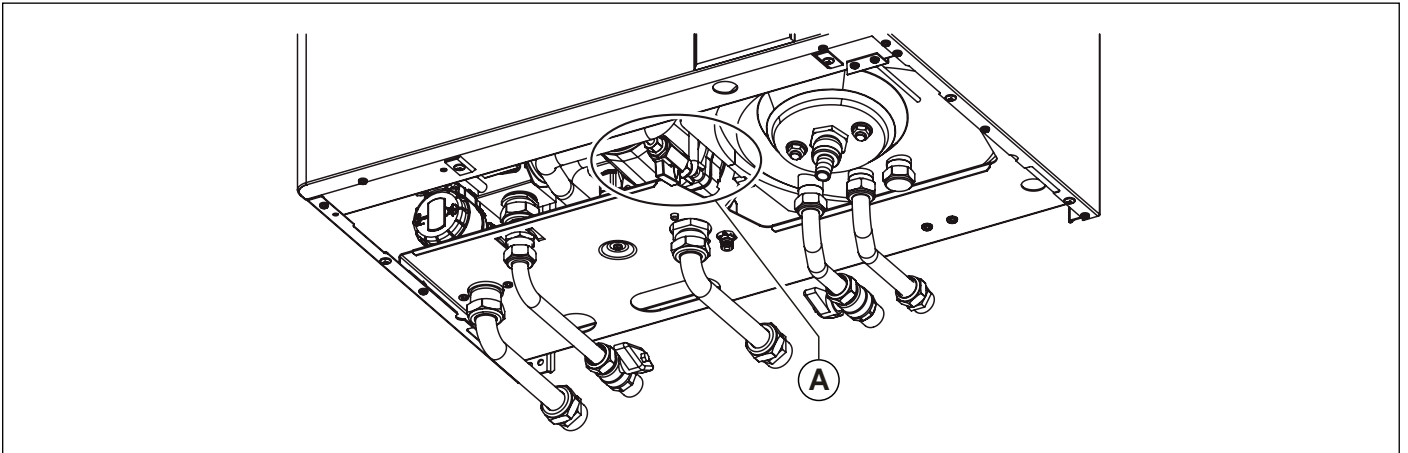

Fig. 2 Filler cock
If "shutdown due to insufficient pressure in system" error **E04** starts flashing (indicating safety water pressure switch triggering), fill the system by opening the filler cock as shown in Fig. 2 Filler cock. **E04** error is displayed when system pressure drops below 0.4 bar and error will be automatically reset as soon as system pressure reaches 1.0 bar. Water pressure must be 1-1.3 bars while the boiler is cold.
- turn the filler cock Fig. 2 Filler cock anticlockwise to allow water to enter the boiler;